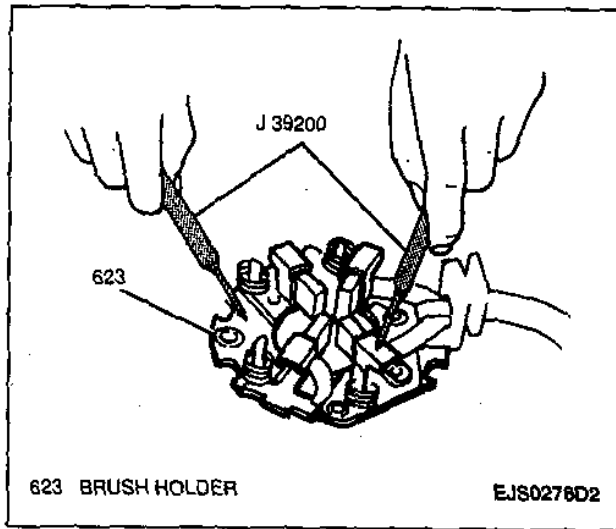

Figure 27—Measuring Brush Holder Resistance
- (Figure 27). If the resistance is 5.0 ohms or less, the brush holder is grounded and must be replaced.